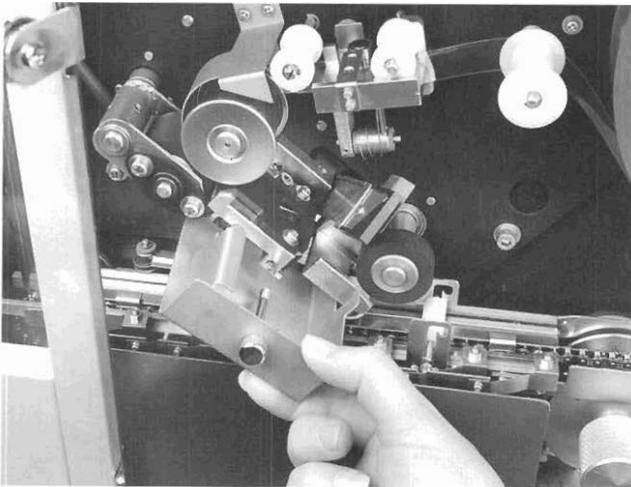

Figure 6-5
2. Remove the tray from the instrument by pulling it straight out toward you, as shown in Figure 6-5. Empty the film scraps into an appropriate container, then wipe out the tray with a paper towel.